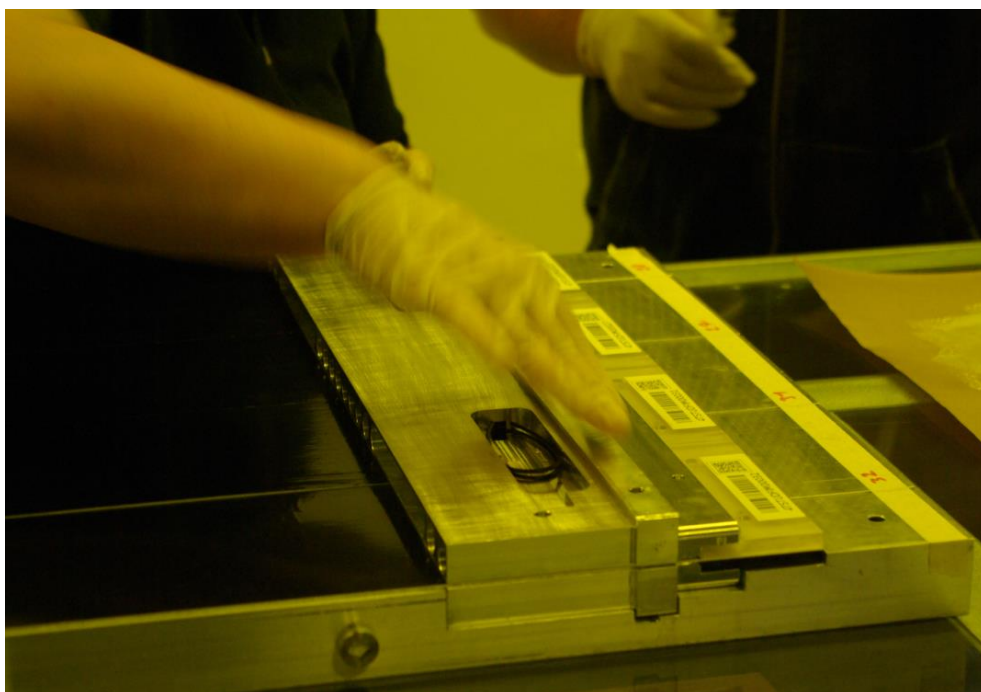
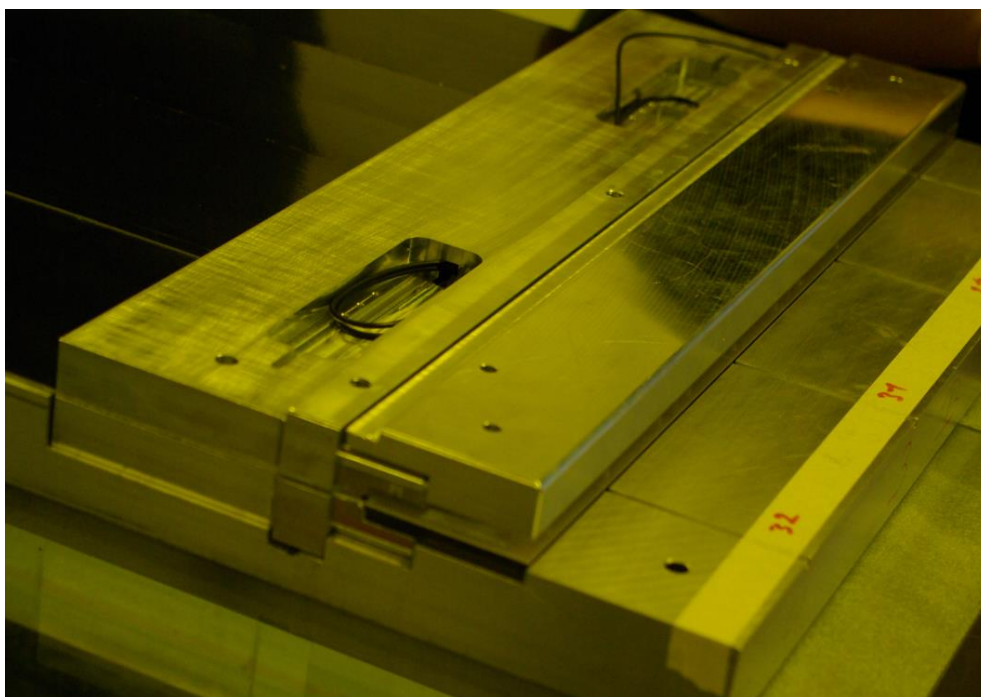
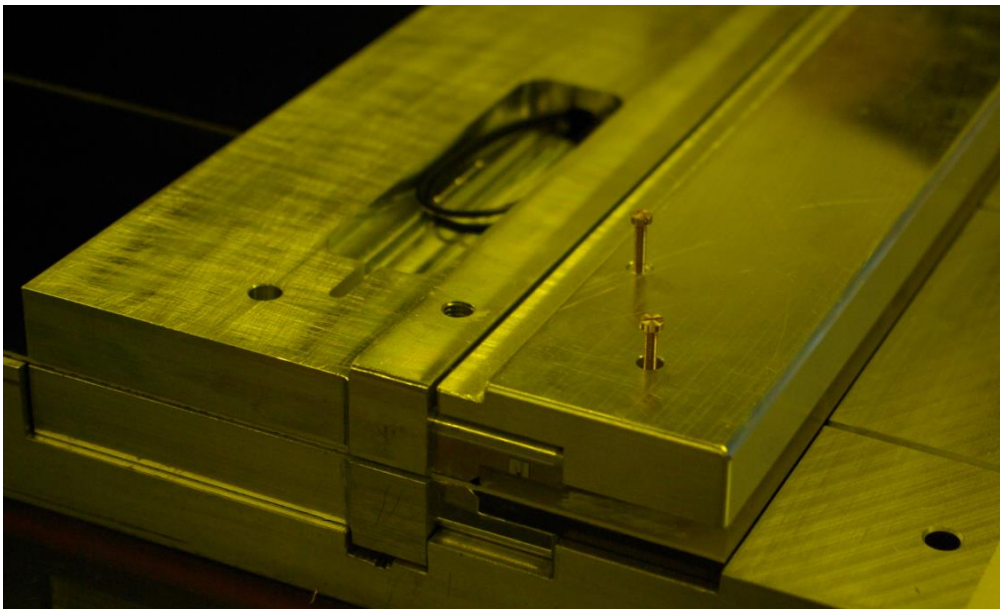

Figure 41 Endplug on mats
Figure 42 Bridge “HE_LHCB_SCIFI_VOR_GJ_008201_D_0_ABSTECKVORRICHTING-EPiece-EPlug”
Figure 43 Insure proper fitting of the dowel pins into the endplugs and endpieces
- 5.1.4.8 Place endplugs (Figure 41) and align with bridges
“HE_LHCB_SCIFI_VOR_GJ_008201_D_0_ABSTECKVORRICHTING-EPiece-EPlug” to the endpieces and dowel pins 4 x \varnothing 6x20/M3 and 4 x \varnothing 6x13/M3. After the dowel pins are well placed, remove the M3 screws. (Figure 42 and Figure 43)
Note: on Figure 41 and Figure 42 you can see tape on the jig with ending numbers of the mats written on it to remind the respective positions of the mats after the record and dry assembly)